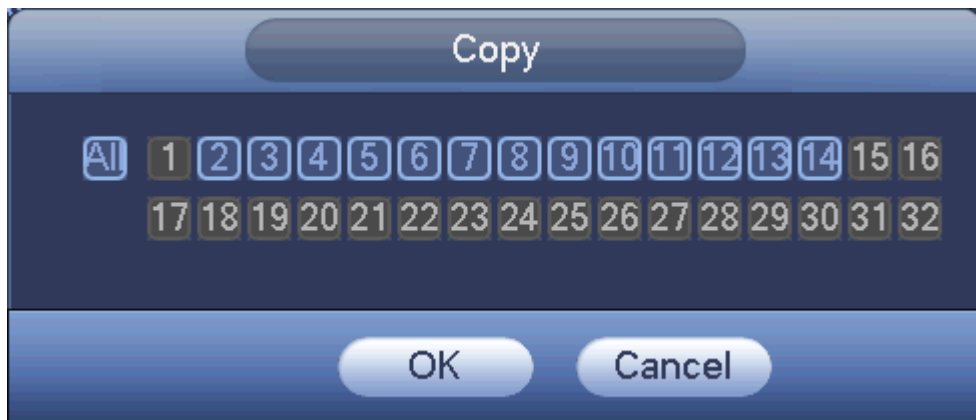

Figure 4-41
- Copy: After you complete the setup, you can click Copy button to copy current setup to other channel(s). You can see an interface is shown as in Figure 4-41. You can see current channel number is grey. Please check the number to select the channel or you can check the box ALL. Please click the OK button in Figure 4-41 and Figure 4-39 respectively to complete the setup. Please note, once you check the All box, you set same encode setup for all channels. Audio/video enable box, overlay button and the copy button is shield.